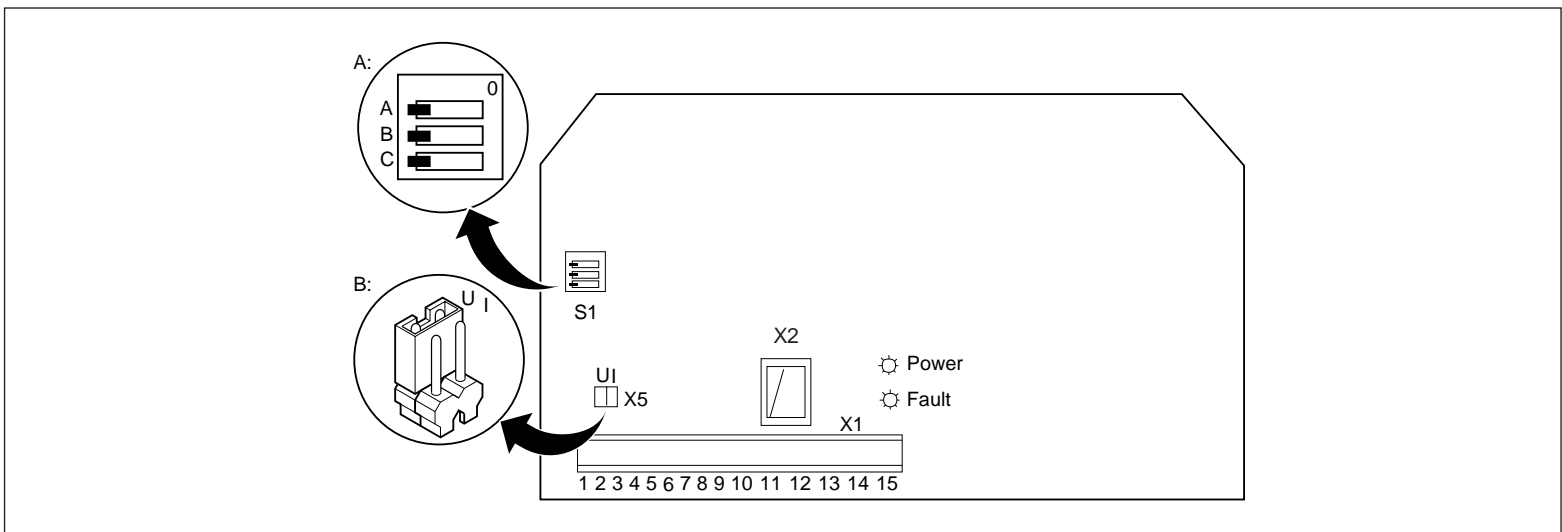

Figure 4-1. Control Card.
1) Refer to figure 4-1 on page 17 for voltage/current reference selection.
I/O option switch S1 on the Control Card (See figure 4-1 on page 17) is used to configure the digital inputs and the Control Panel lock-out. The ACS 200 control input can be configured for four different wired control modes with S1,A and S1,B: